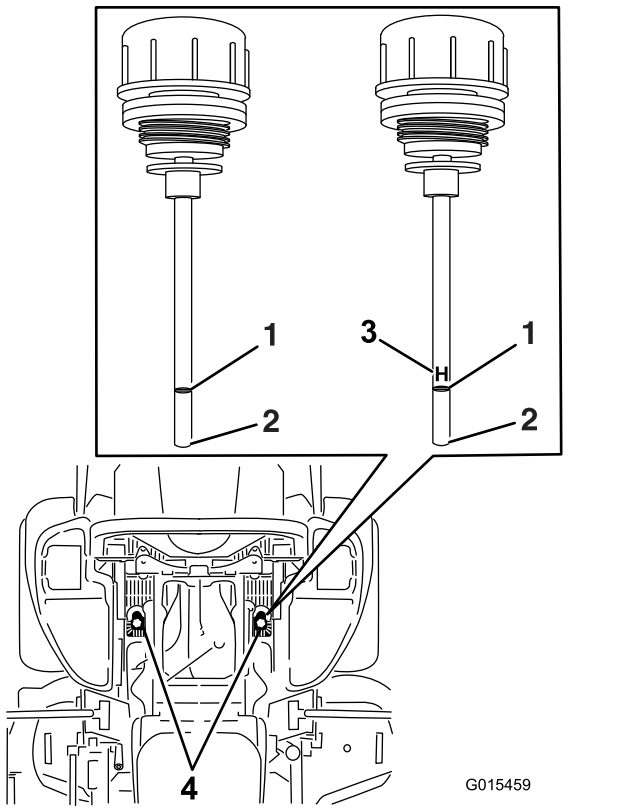

Figure 90
6. Clean the area around the dipsticks of the hydraulic system reservoirs (Figure 90).
7. Remove 1 dipstick from the hydraulic reservoir (Figure 90).
9. Remove the dipstick and look at the end (Figure 90).